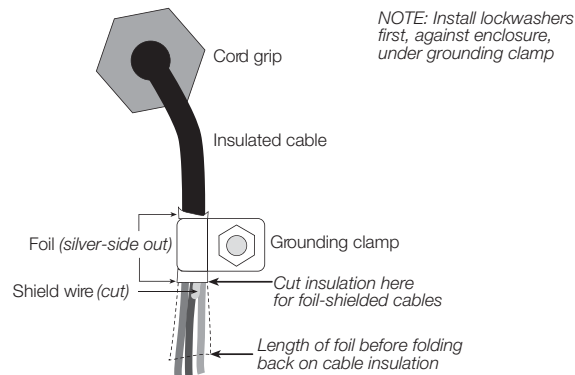

Figure 3-2. Grounding Clamp Attachment
3. Strip the insulation and foil from the cable half an inch (15 mm) past the grounding clamp (see Figure 3-2). Fold the foil shield back on the cable where the cable passes through the clamp. Ensure silver (conductive) side of foil is turned outward for contact with the grounding clamp.
5. Route stripped cables through cord grips and clamps. Ensure shields contact grounding clamps as shown in Figure 3-2. Tighten grounding clamp nuts.